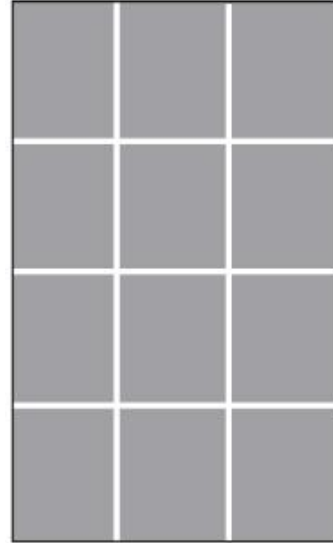

Figure 4. Original style of mullion.
- Noticeable cracked or broken windows must be replaced within forty-five (45) days.
- Mullions (Grid pattern) must match original windows. See the accepted mullion style in Figure 4.